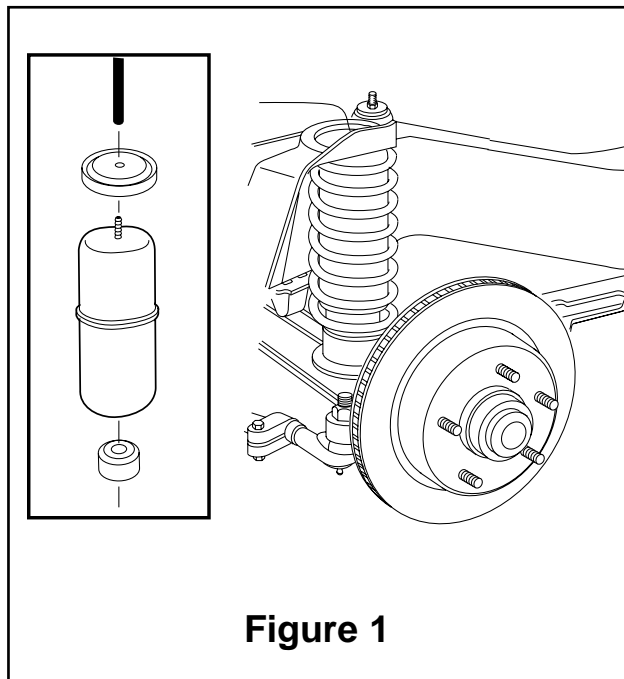

Figure 1
3. Install the lower protector (Figure 1) by dropping it through the upper coil spring seat, cupped side down. Set the protector on the bolt attaching the spring to the axle.